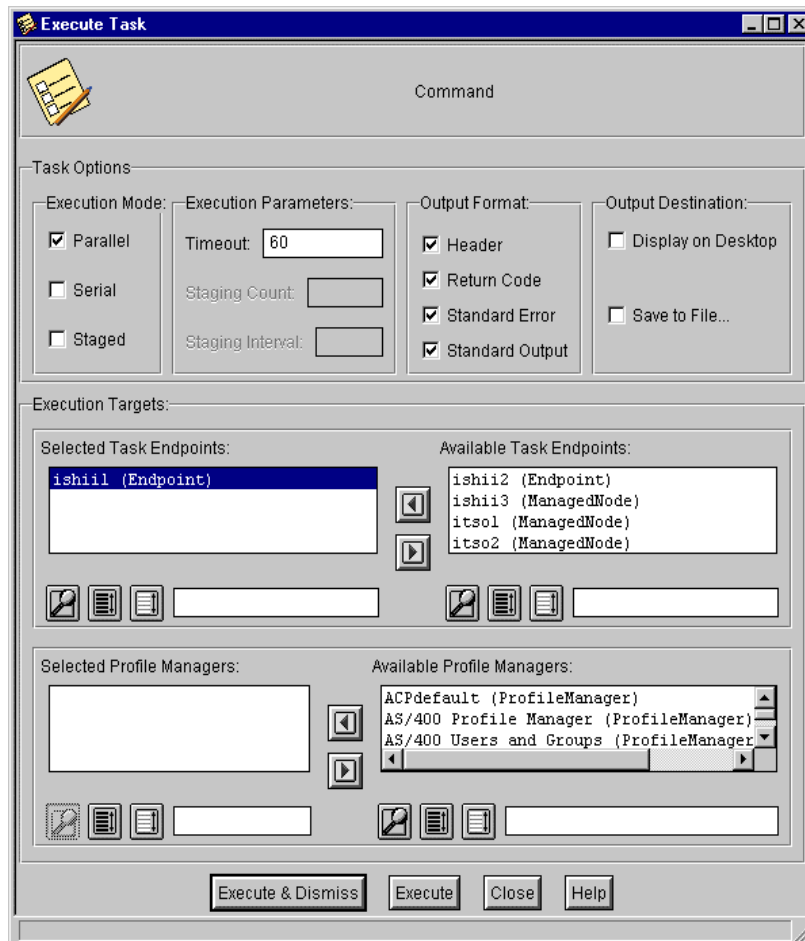

Figure 291. Selecting endpoint on the Execute Task screen
2. On the Execute Task screen shown in Figure 291 on page 458, select the endpoint on which the task will be run. In this case, we will set the task to run on ishii1; however, this can be set up to run on all AS/400s shown in the Endpoints list.